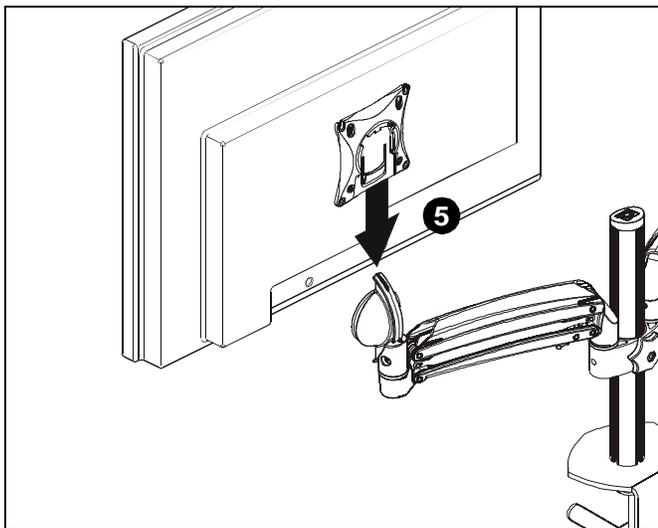

Figure 6
4. Position display with faceplate attached above mount. (See Figure 6)
5. Slide faceplate onto mounting head until release tab clicks into place. (See Figure 6)